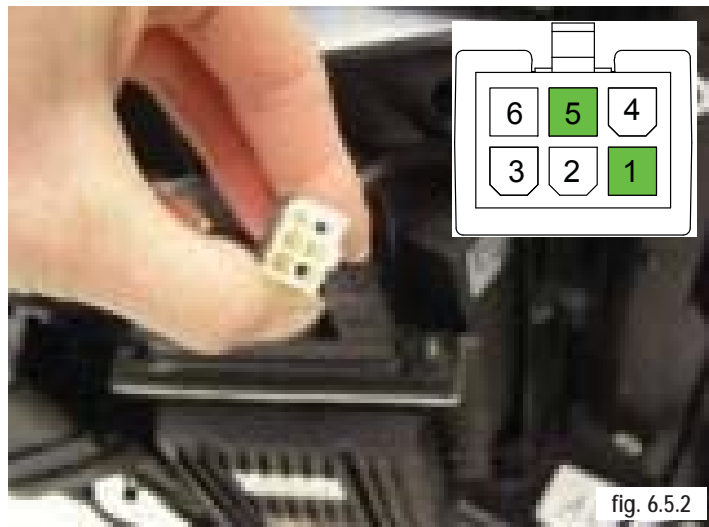

fig. 6.5.2
4. If your reading is open, re-test the resistance at the 6 pin connection leading directly from the shear actuator (fig 6.5.2) at pins 1 and 5. If your reading is open, replace the shear actuator. If resistance is verified, replace the harness leading from the 6 pin actuator harness to the ISM.